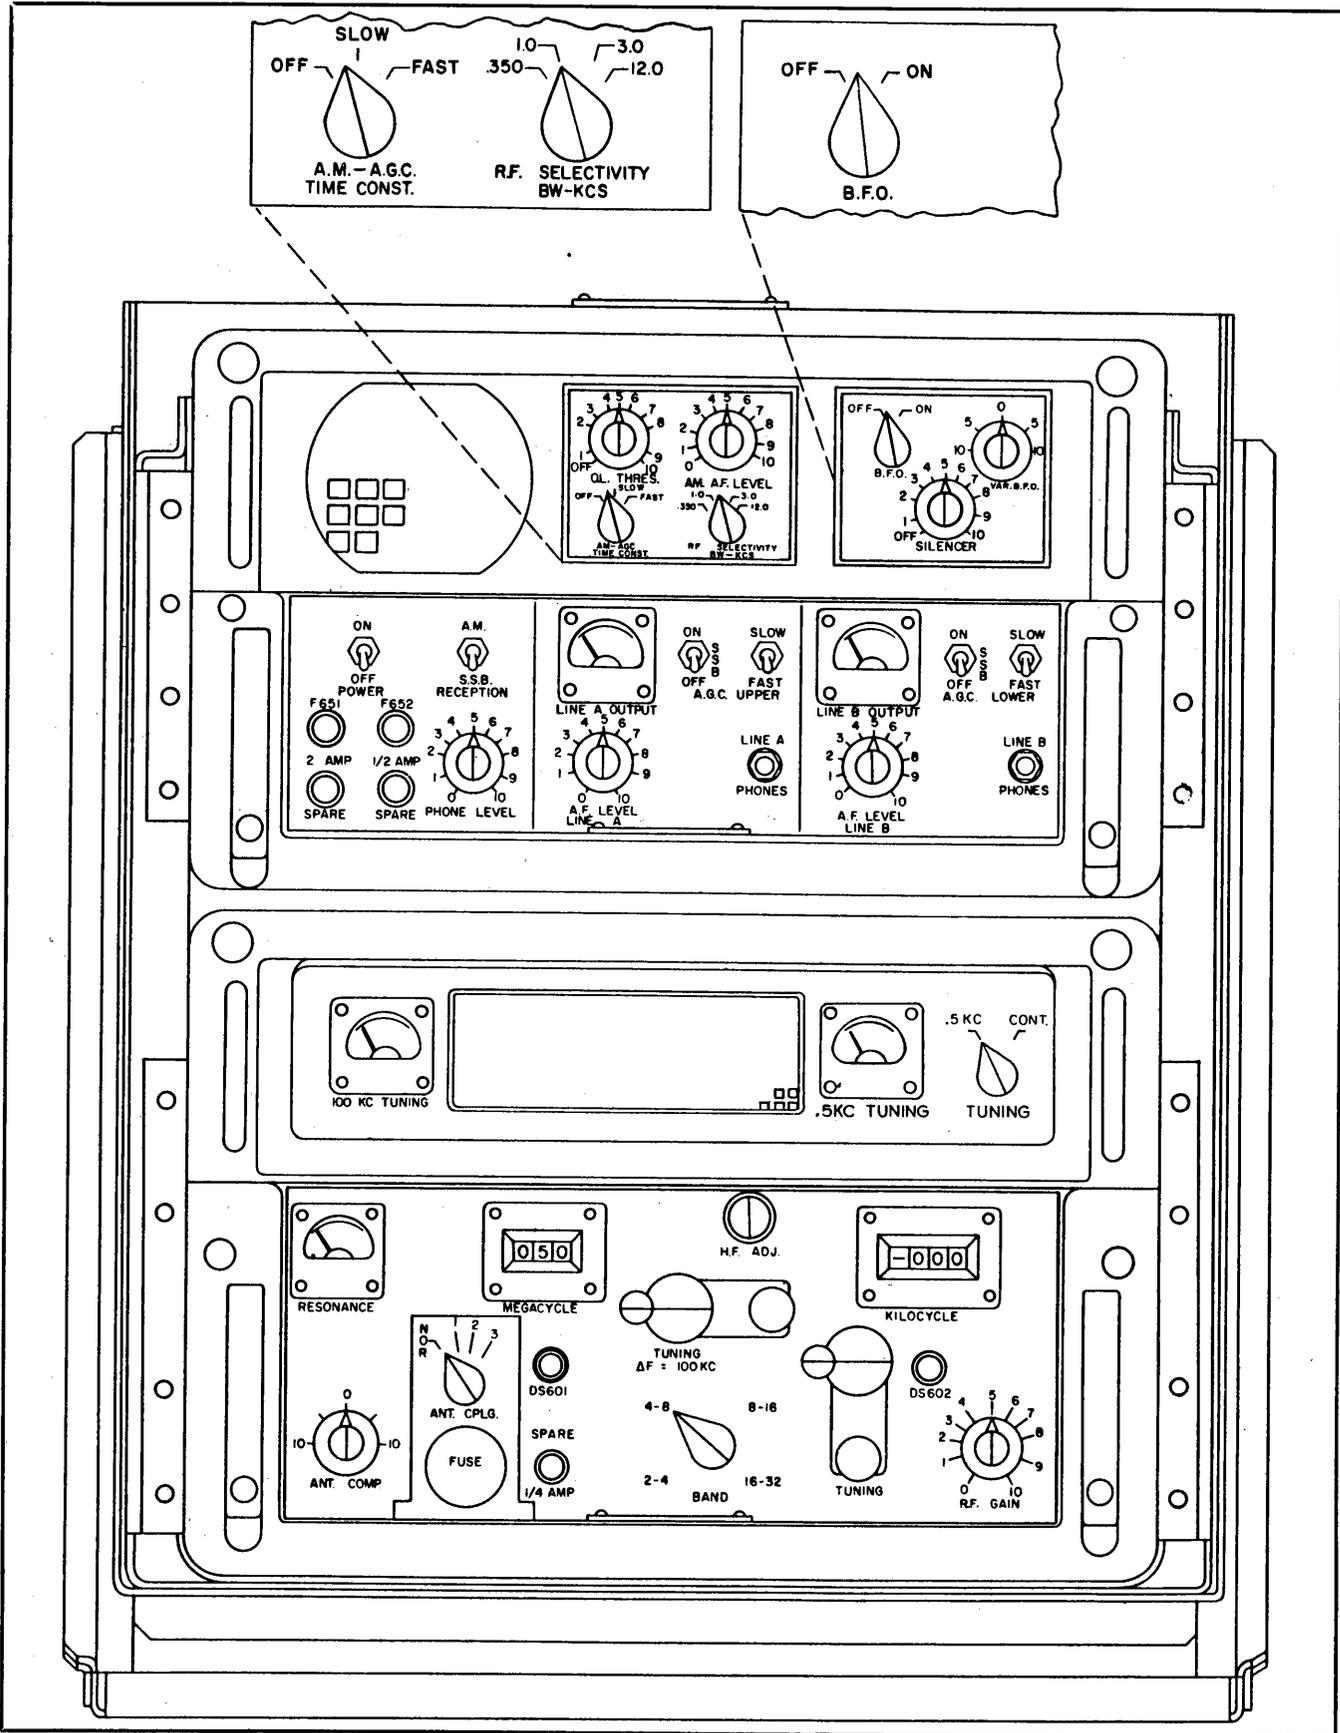

Figure 3-1. Radio Receiving Sets AN/WRR-2A and AN/FRR-59A, Front View
a. DESCRIPTION OF CONTROLS. — All controls required for normal operation are located on the front panels of the receiver except the .5 KC/CONT. TUNING control which is located behind the filter cover on the converter drawer. Controls accessible to the operator but not required for normal operation are listed in paragraph 3-2d. Table 3-1 contains a description of the functions of all operating controls and devices, and figure 3-1 shows the location of each panel control.